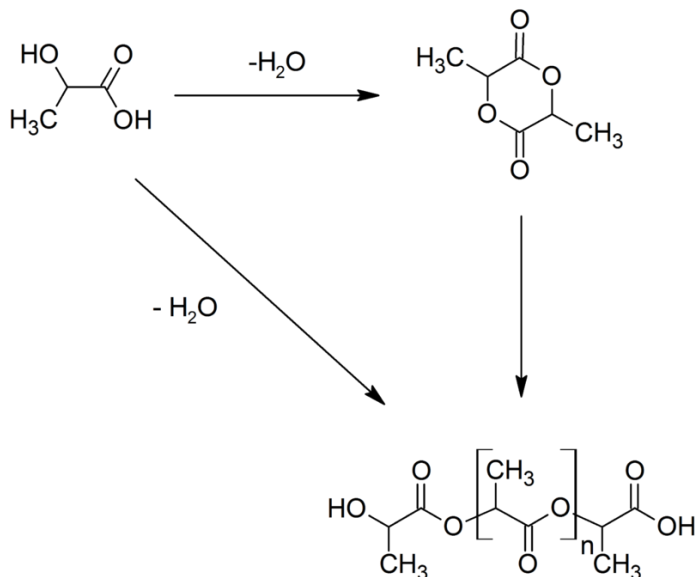

Fig.3.6 Mechanism of Synthesis of PLA
The synthesis of PLA is a multistep process which starts from the production of lactic acid and ends with its polymerization. An intermediate step is often the formation of the lactide. Figure 21.2 shows that the synthesis of PLA can follow three main routes. Lactic acid is condensation polymerized to yield a low molecular weight, brittle polymer, which, for the most part, is unusable, unless external coupling agents are employed to increase its chains length. Second route is the azeotropic dehydrative condensation of lactic acid. It can yield high molecular weight PLA without the use of chain extenders or special adjuvants. The third and main process is ring-opening polymerization (ROP) of lactide to obtain high molecular weight PLA, patented by Cargill (US) in 1992. Finally, lactic acid units can be part of a more complex macromolecular architecture as in copolymers as shown in fig3.6